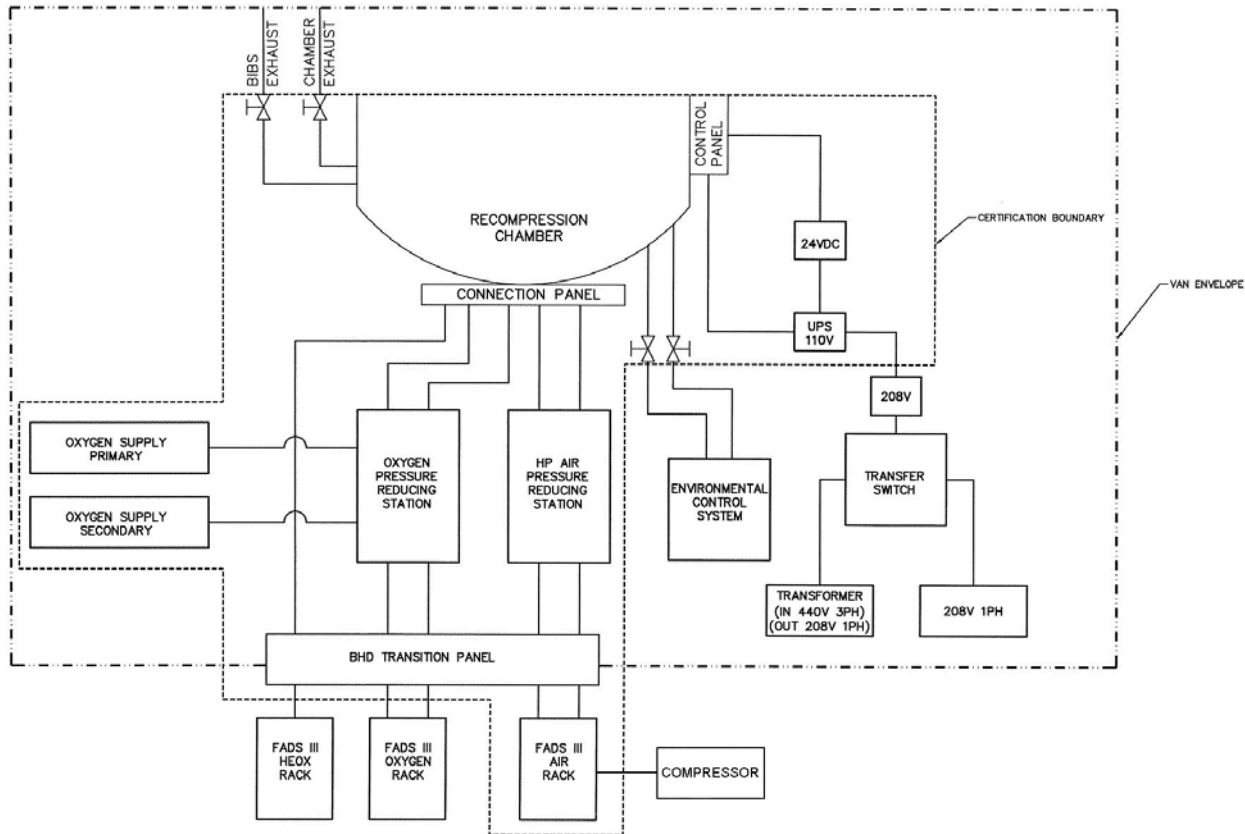

Figure 4-1. Scope of Certification (SOC) Boundary
**4-1.2 SCOPE.** The SNDLRCS is a certified diving system and must be maintained in accordance with certification requirements. The scope of certification (SOC) for the system is defined in NAVSEA Drawing Number 592-7317710 and shown in Figure 4-1. The accomplishment of maintenance on certified equipment requires strict adherence to the control and procedures outlined in the *U.S. Navy Diving and Manned Hyperbaric Systems Safety Certification Manual*, SS521-AA-MAN-010 and *Continuation of Certification Handbook for U.S. Navy Diving Systems*, SS521-AB-HBK-010. All planned maintenance conducted on the system, within the certification boundaries, shall be accomplished using only approved maintenance procedures.